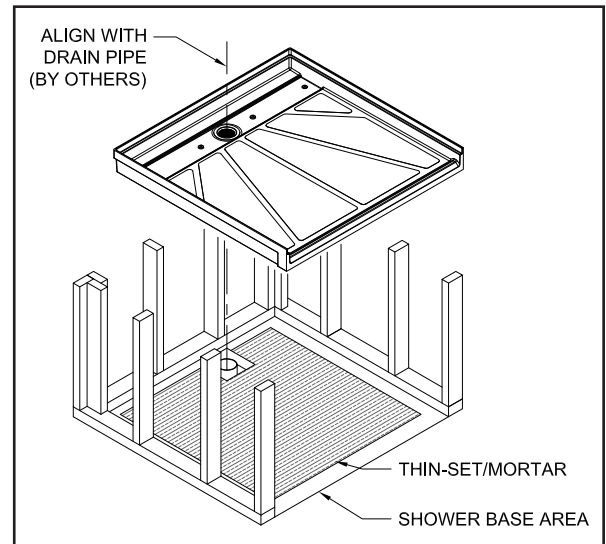

FIG. 6- SHOWER BASE INSTALLATION
2. Mix and spread an adequate layer of Thin-set/Mortar inside the framework, with a 2" minimum distance from the framework edge (**SEE FIG. 6**). Use enough Thin-set/Mortar to evenly cover the area under the Shower Base.